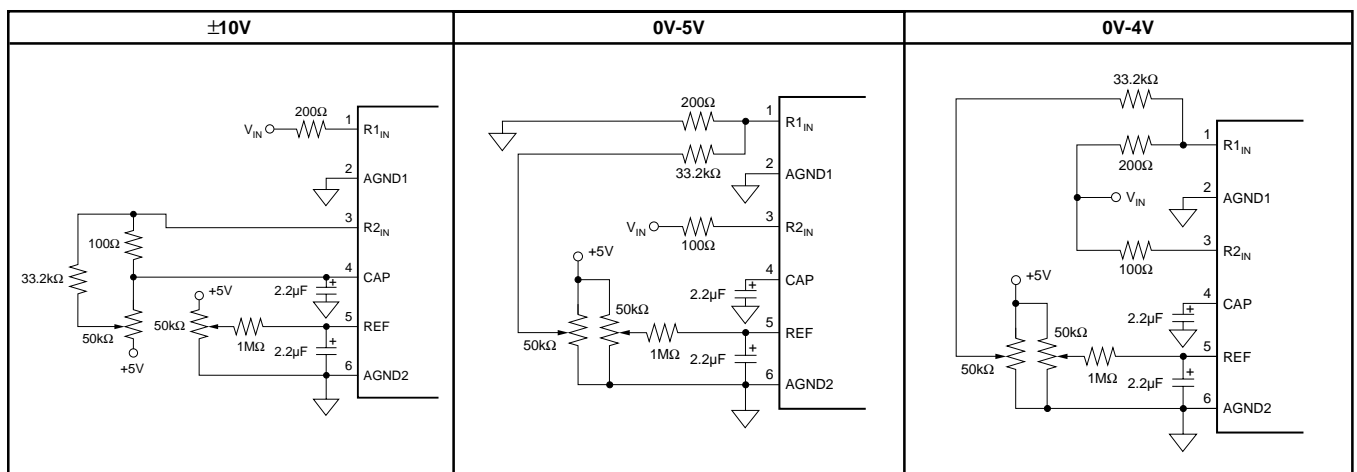
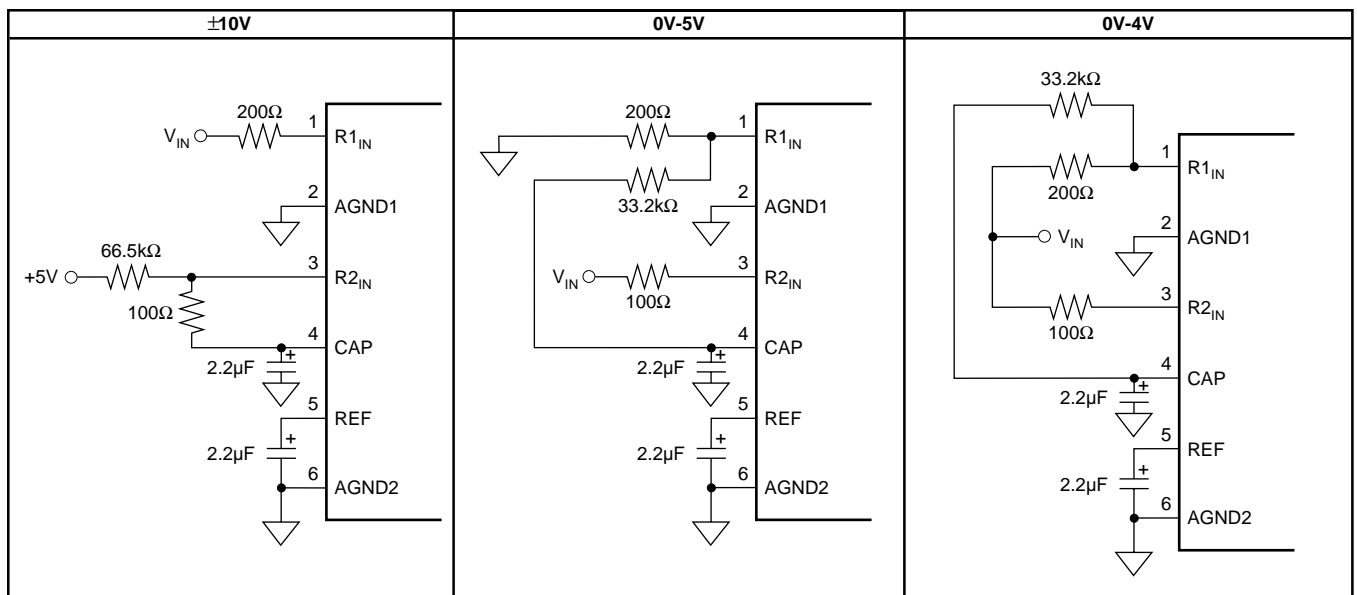
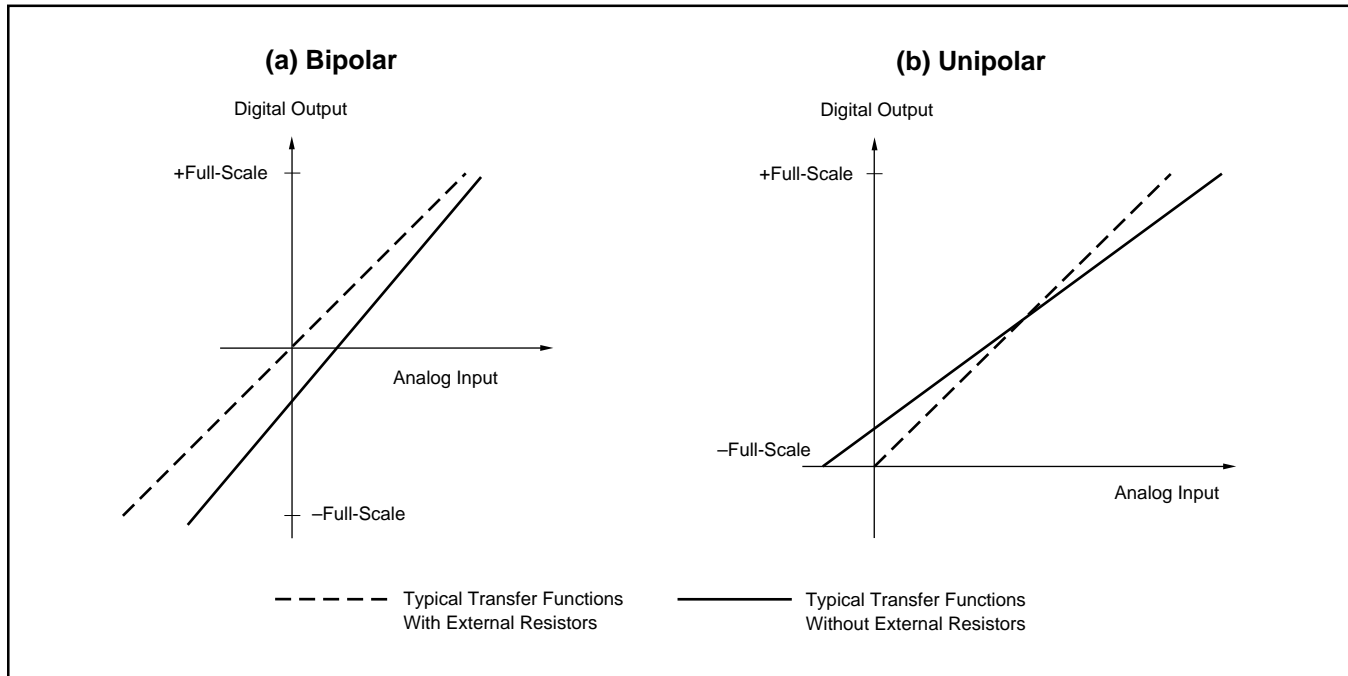

FIGURE 7a. Circuit Diagrams (With Hardware Trim).
FIGURE 7b. Circuit Diagrams (Without Hardware Trim).
FIGURE 8. Typical Transfer Functions With and Without External Resistors.
The ADS7807 offers three input ranges: standard  $\pm 10\text{V}$  and  $0\text{V}-5\text{V}$ , and a  $0\text{V}-4\text{V}$  range for complete, single-supply systems. See Figures 7a and 7b for the necessary circuit connections for implementing each input range and optional offset and gain adjust circuitry. Offset and full-scale error(1) specifications are tested with the fixed resistors, see Figure 7b. Adjustments for offset and gain are described in the **Calibration** section of this data sheet.
The input impedance, summarized in Table II, results from the combination of the internal resistor network (see the front page of this product data sheet) and the external resistors used for each input range (see Figure 8). The input resistor divider network provides inherent over-voltage protection to at least  $\pm 5.5\text{V}$  for  $R_{2\text{IN}}$  and  $\pm 12\text{V}$  for  $R_{1\text{IN}}$ .
To calibrate the offset and gain of the ADS7807 in hardware, install the resistors shown in Figure 7a. Table VI lists the hardware trim ranges relative to the input for each input range.
TABLE VI. Offset and Gain Adjust Ranges for Hardware Calibration (see Figure 7a).
To calibrate the offset and gain in software, no external resistors are required. However, to get the data sheet specifications for offset and gain, the resistors shown in Figure 7b are necessary. See the **No Calibration** section for more details on the external resistors. Refer to Table VIII for the range of offset and gain errors with and without the external resistors.
Figure 7b shows circuit connections. Note that the actual voltage dropped across the external resistors is at least two orders of magnitude lower than the voltage dropped across the internal resistor divider network. This should be considered when choosing the accuracy and drift specifications of the external resistors. In most applications, 1% metal-film resistors will be sufficient.
The external resistors (see Figure 7b) may not be necessary in some applications. These resistors provide compensation for an internal adjustment of the offset and gain which allows calibration with a single supply. Not using the external resistors will result in offset and gain errors in addition to those listed in the **Electrical Characteristics** section. Offset refers to the equivalent voltage of the digital output when converting with the input grounded. A positive gain error occurs when the equivalent output voltage of the digital output is larger than the analog input. Refer to Table VII for nominal ranges of gain and offset errors with and without the external resistors. Refer to Figure 8 for typical shifts in the transfer functions which occur when the external resistors are removed.